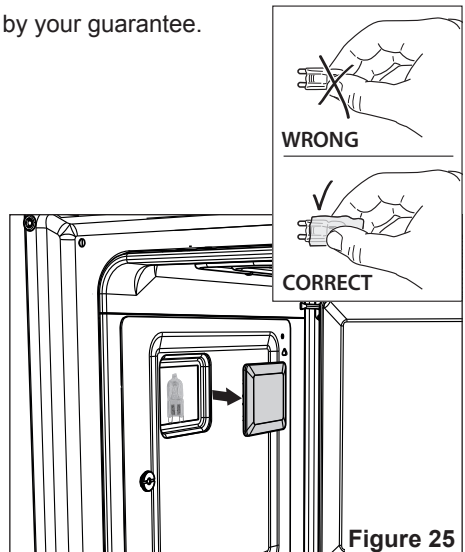

Figure 25
- Remove the protective cover (fig. 25).